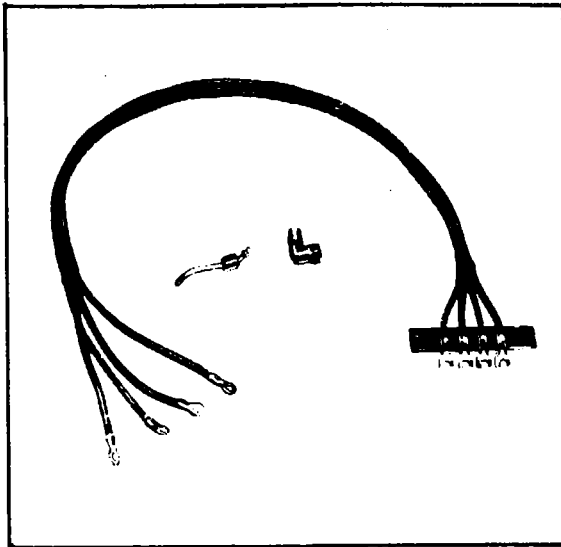

Figure 13-16. Test Stand Conversion Kit
e. The conversion kit, Part Number ST-890249, consists of a connecting strip with four colored coded wires, each terminated with a square terminal (Refer to "B", Figure 13-16.); an adapter fitting ("C"); and, a short length of 1/8 inch copper tubing with a compression nut and collar at one end ("A").